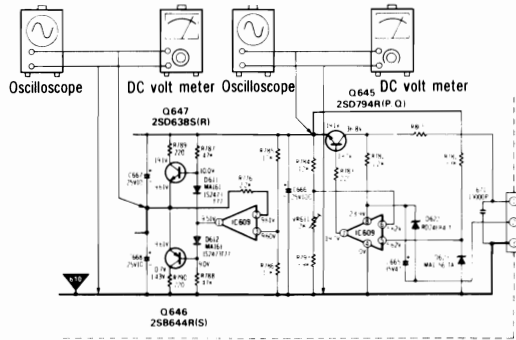

Fig. 14
① Operation check of regulated power supply circuit in dbx circuit Equipment: * DC volt meter * Oscilloscope	①-1 Check of 19V voltage Make the connection as shown in fig. 14 and make sure that the emitter voltage of Q645 is +19V ± 0.5V. (If the voltage is deflected slightly from +19V ± 0.5V, it can be adjusted by VR611.) ①-2 Check of 9.5V voltage Make the connection as shown in fig. 14 and make sure that the emitter voltage of Q647 is around 9.5V.